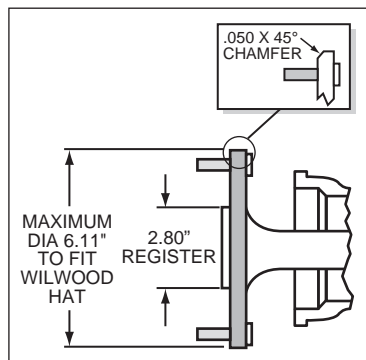

Figure 5. Axle Flange Maximum Dimension
- Axle center register diameter is 2.80", Figure 5. This kit uses Wilwood's removable center register adapters. Rotors can either be centered on the axle register, i.e. *register-centric* or centered on the wheel studs, i.e. *stud-centric*. Due to variations in wheel stud final diameters, *register-centric* centering can be a more accurate method of centering the rotor to the axle. Wilwood offers
- Maximum axle flange diameter must be no larger than 6.11" w/.050" x 45° chamfer (see Figure 5).